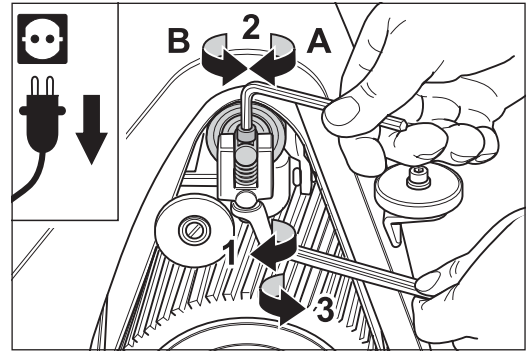

Fig. 42 Adjust the sanding belt tracking at the setting screw of the drive unit (see description in the main text).
- 6 If readjustment of the tensioning roller is necessary, release the lock nut at the drive unit (Fig. 42, 1) and adjust the tensioning roller with the screw (Fig. 42, 2):
- 7 If the sanding belt tracking is seen to be correct after adjusting once, **tighten the lock nut again** (Fig. 42, 3).